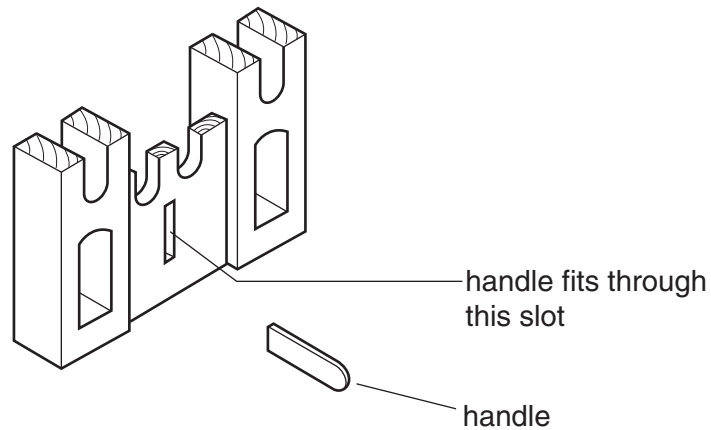

Fig. 4
- 4 Fig. 4 shows a view of an incomplete child's toy.